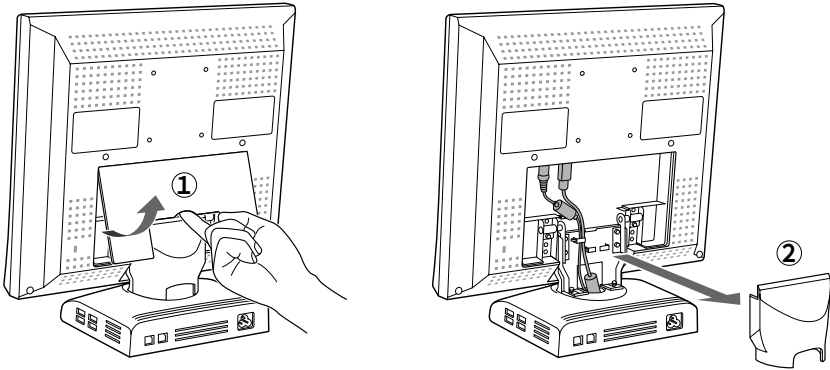
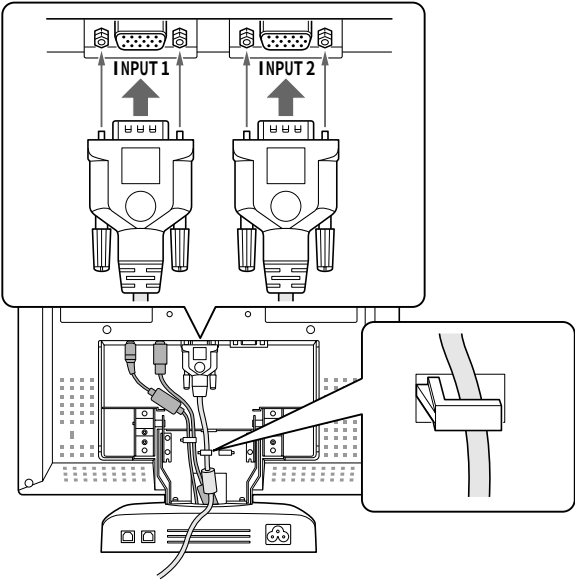
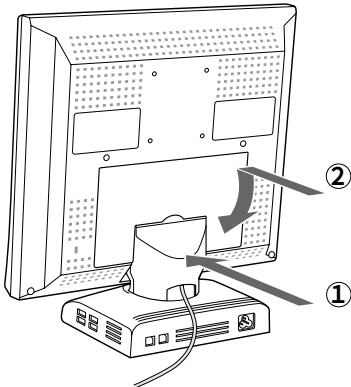

Figure C.1
Figure D.1
Figure E.1
3. Remove connector cover and cable cover (Figure C.1). Connect the 15-pin mini D-SUB of the video signal cable to the appropriate connector on the back of the monitor (Figure D.1). Place the Video Signal Cable under Clip A. Replace connector cover and cable cover (Figure E.1).